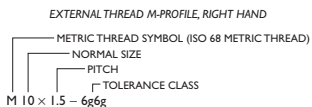

Fig. 31-10
Metric M-Profile screw threads are identified by letter (M) for thread form, followed by the nominal diameter size and pitch expressed in millimeters, separated by the sign (\times) and followed by the tolerance class separated by a dash (—) from the pitch. For example, a coarse-pitch metric M-Profile thread for a common fastener would be designated as shown in Fig. 31-10.